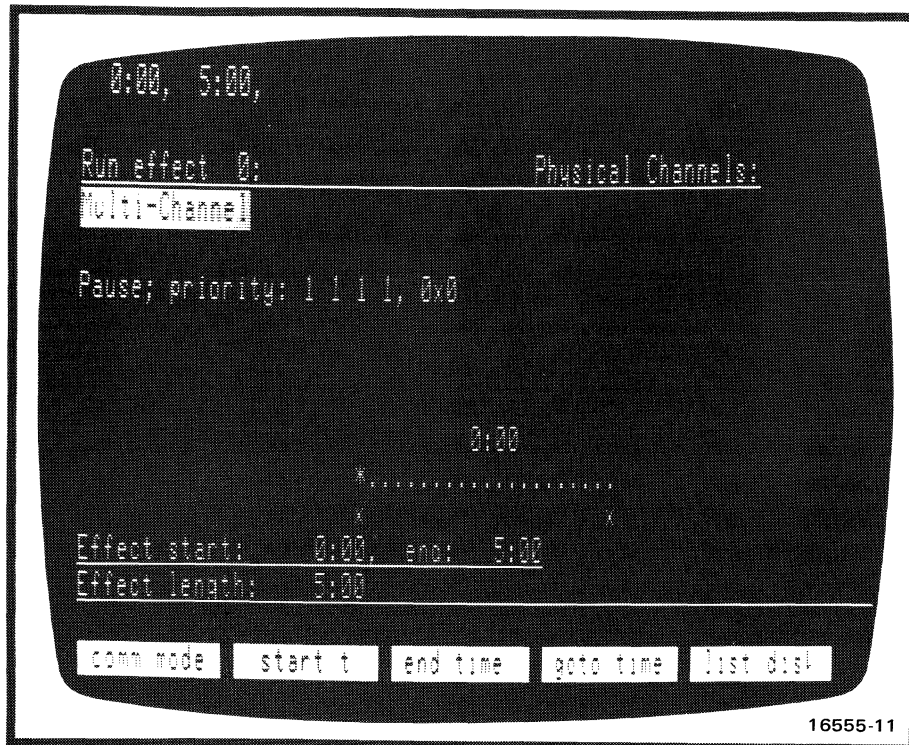

Figure 2-9. Run Mode Menu
This menu, shown in Figure 2-9, is used when running or editing effects. The display shows run mode parameters such as effect starting time, ending time, and length.
- **start t** allows an effect start time to be changed temporarily from the 0:00 value set by the system at the first keyframe in an effect. When **start t** is pressed, the effect start value on the display flashes. Entering a value from the keypad moves the effect position asterisk to the new start point and places a dot underneath the effect time line. (Refer to Figure 2-9.) The effect moves to the keyframe corresponding to the new time, as well.